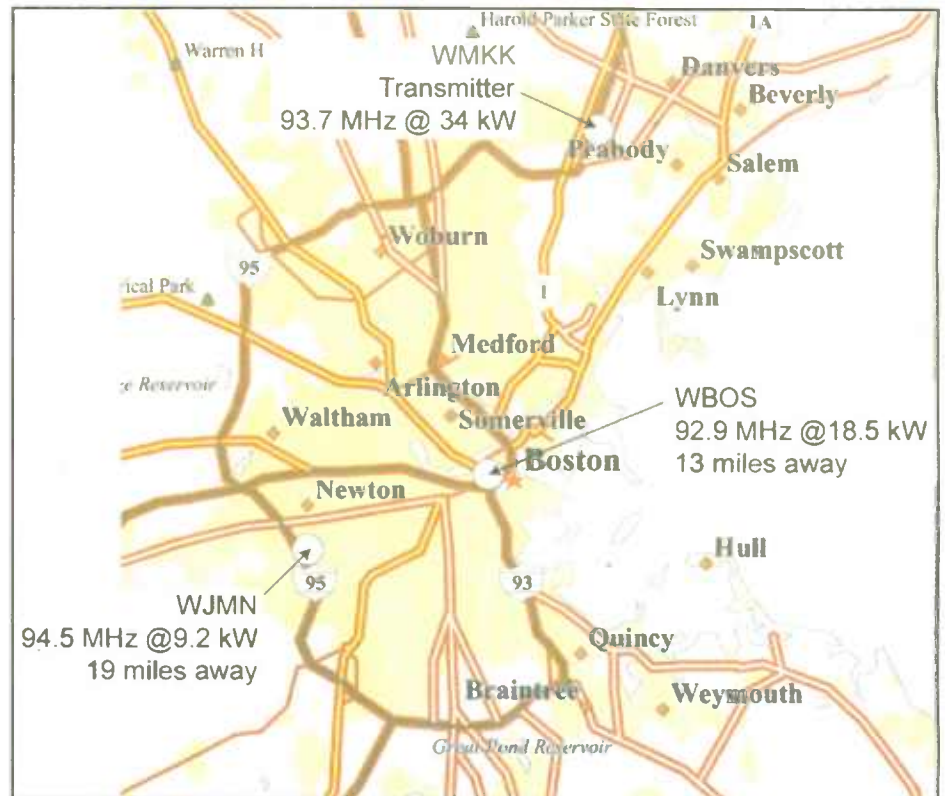

Fig. 8: Three Boston-Area Stations
Now for a case study. WMKK(FM)'s transmitter site is located north of Boston in the city of Peabody, Mass. (Fig. 8). When WMKK turned its digital transmitter on, spurs appeared at +/-828 kHz and caused interference to stations WBOS(FM) and WJMN(FM) within a half mile of WMKK's transmitting tower.